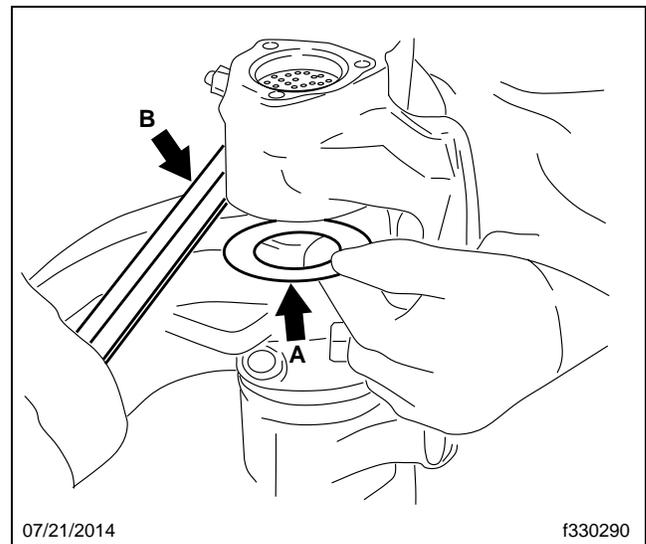

Fig. 7, Installing the Shims
- 26.2 Install the original shims, as removed. See **Fig. 7**.